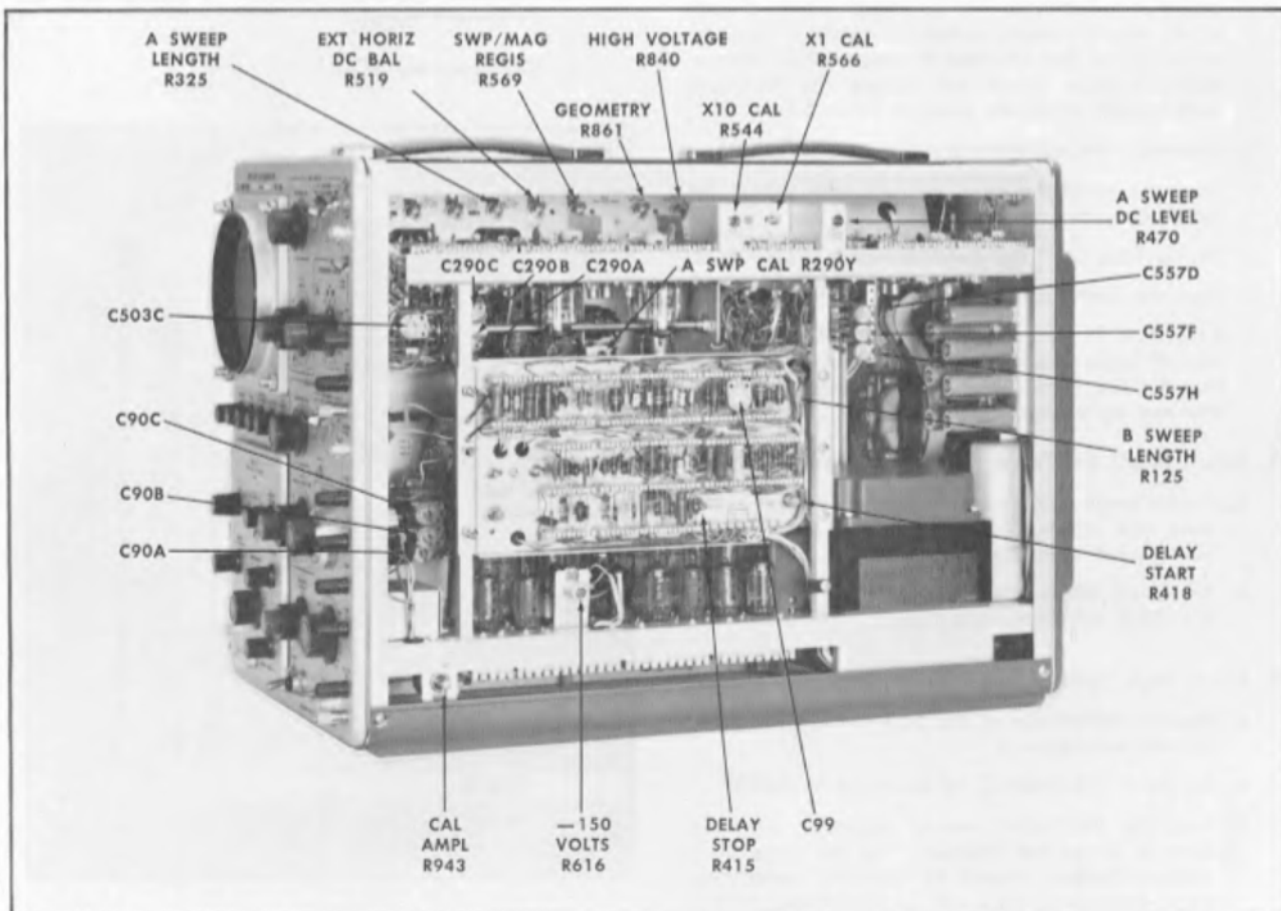

Fig. 5-2. Calibration adjustment locations.
- c. If necessary, adjust -150 VOLTS R616 (see Fig. 5-2) so all power supply voltages are within tolerance.
- b. Adjust the HIGH VOLTAGE R840 (see Fig. 5-2) for a -1850 voltmeter indication.
- d. Adjust CAL AMPL R943 (see Fig. 5-2) for a voltmeter reading of exactly 100 volts.
- g. Adjust GEOMETRY R861 (see Fig. 5-2) for the straightest possible vertical marker-lines running parallel to